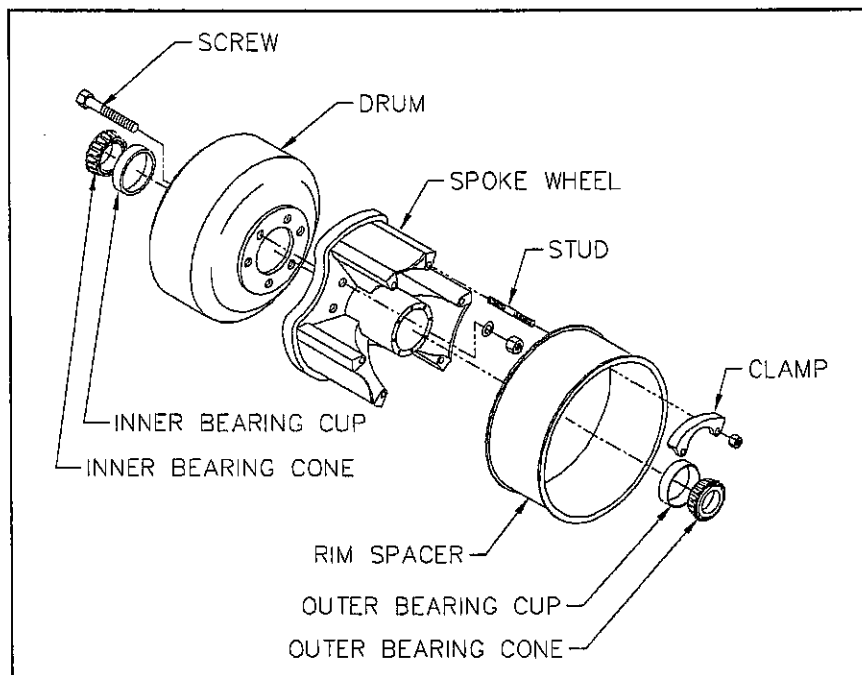
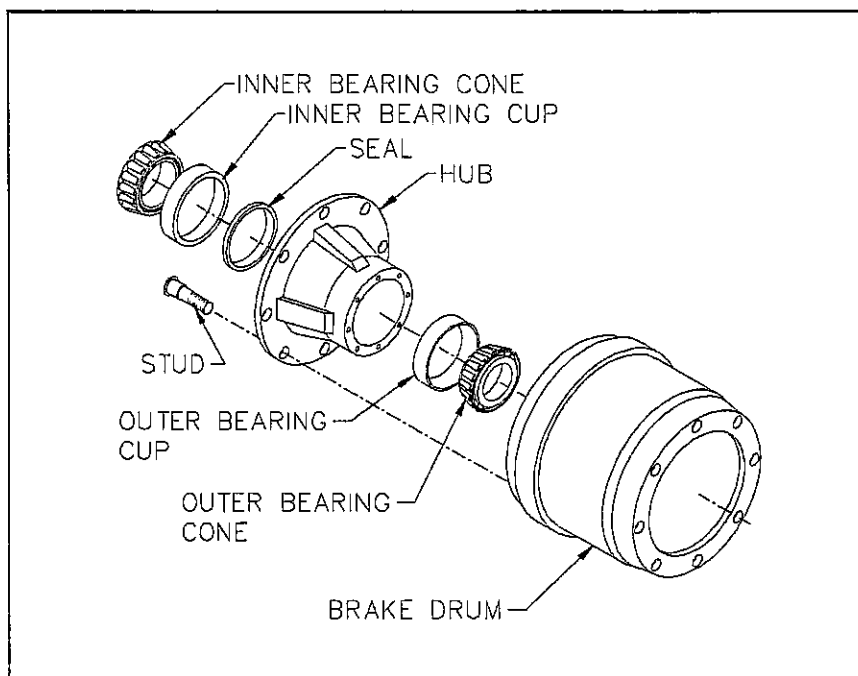
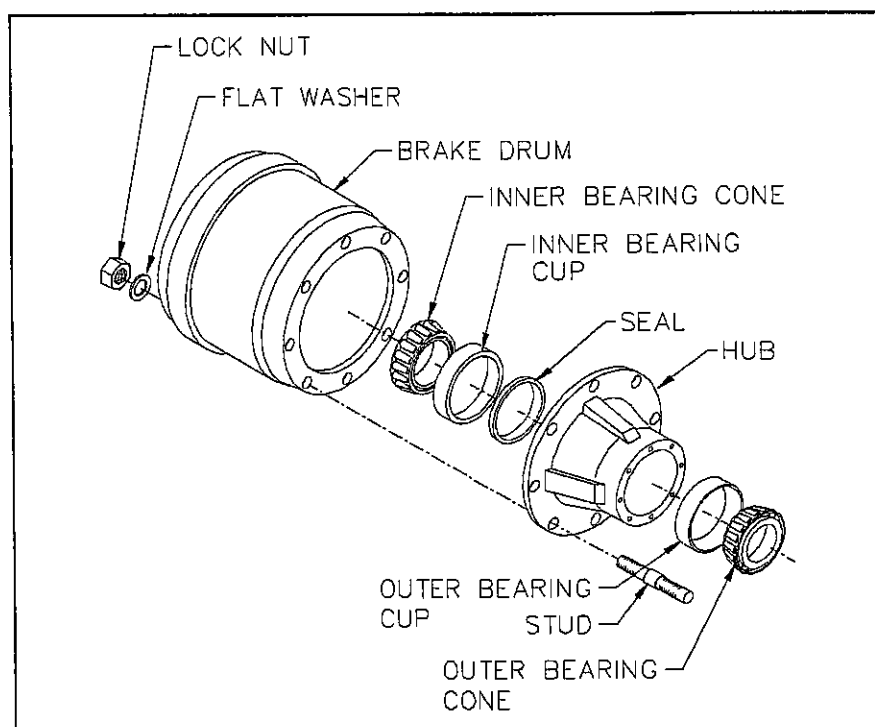

Figure 4-13 Three Spoke Wheel and Drum
Figure 4-14 Outboard Mount Hub and Drum
Figure 4-15 Inboard Mount Hub and Drum
4-10.4 Replace the hub and drum as follows (see Figure 4-14, 4-15 and 4-13):
a. For outboard mount hub and drum remove the brake drum (see Figure 4-14). It may be necessary to release the slack adjuster. For inboard mount (see Figure 4-15) and spoke wheel (see Figure 4-13) remove drum after hub.
m. If studs are marked "R" or "L", right hand (R) hubs should be installed on the curbside of the vehicle, left hand (L) hubs should be installed on the driver side.
s. For Outboard Mounted Brake Drum (see **Figure 4-14**) place the drum over the hub and brake shoes being careful not to damage the threads on the studs. Make sure the drum seats flat against the hub flange and mates properly with the hub pilot. There should be no interference between the brake drum pilot chamfer and the corner radius on the hub. If interference exists, the hub will not be able to function properly.